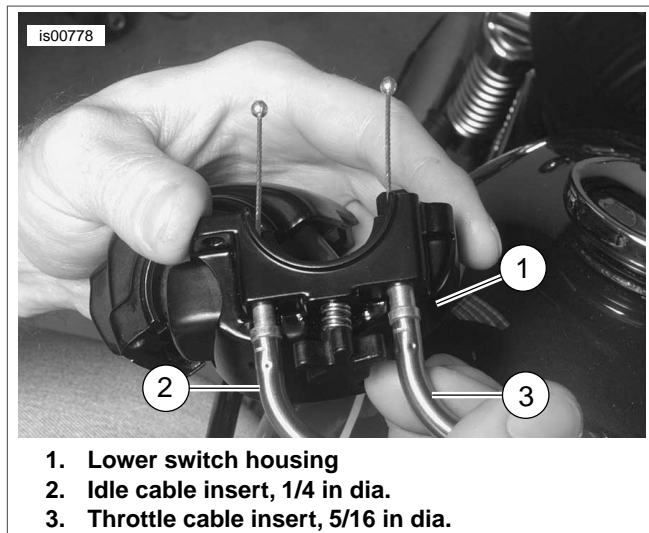

Figure 3. Idle / Throttle Control Cable Connections to Switch Housing
8. See Figure 3. Pull crimped inserts, at end of throttle (3) and idle (2) control cable housings, from lower switch housing (1). For best results, use a rocking motion while pulling. Place a drop of light oil on retaining rings, if necessary. Remove cables from switch housing.
3. See Figure 3. Connect throttle (3) and idle (2) control cables to the lower switch housing (1):